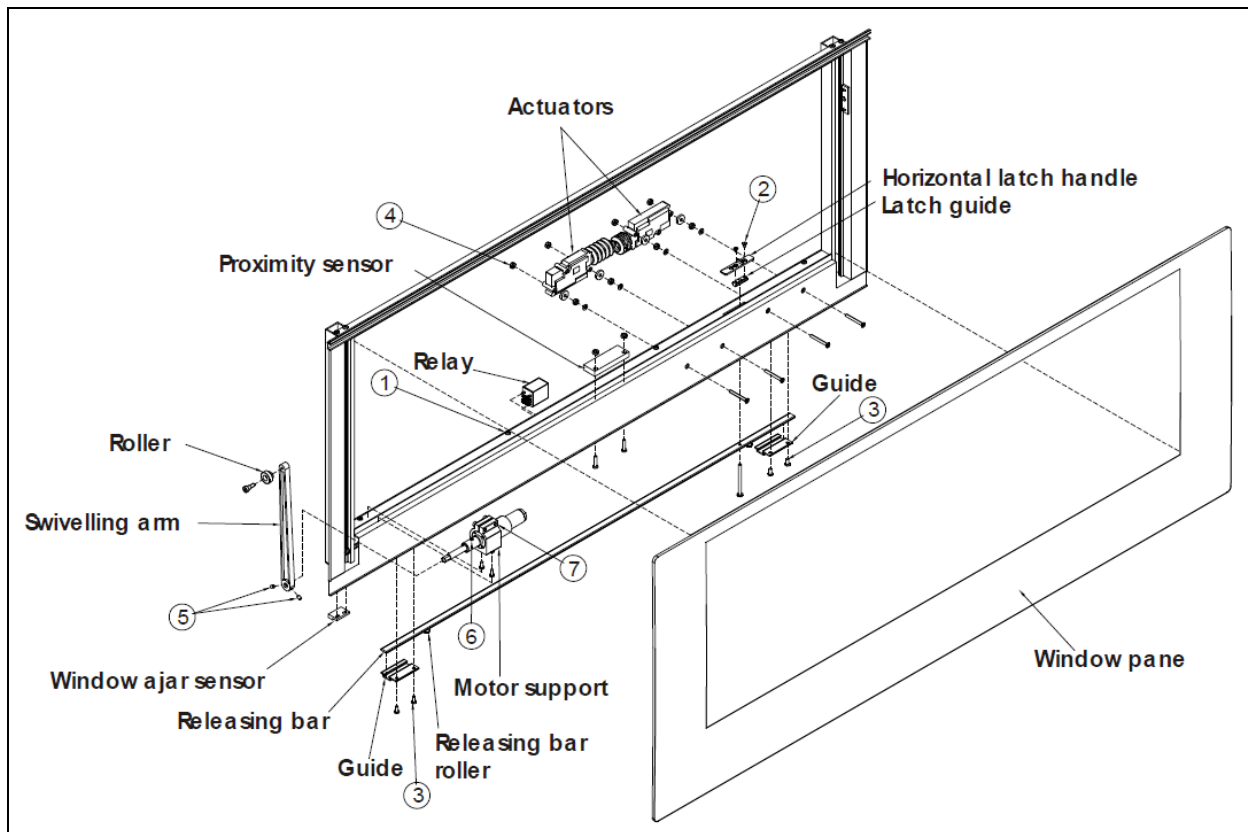

FIGURE 45: ELECTRIC AWNING WINDOW EXPLODED VIEW (SASH)
4. Loosen the set screws #5 (Figure 45) (rotate the arm to get to the second set screw) and disengage the swiveling arm from the motor shaft extension.